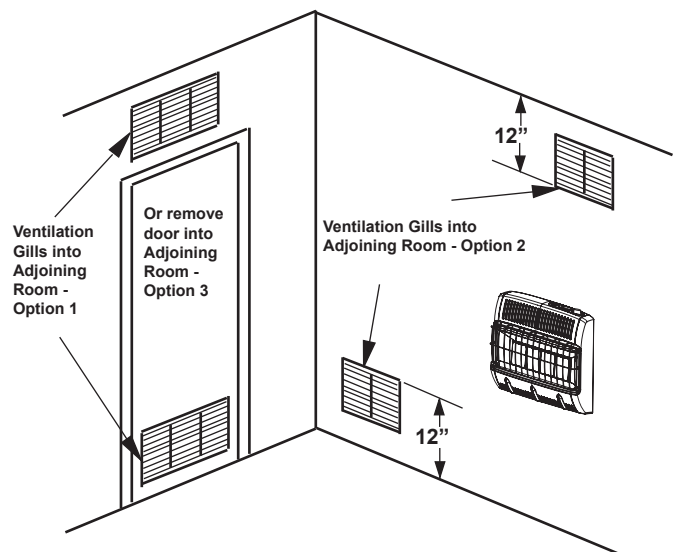

Figure 2.
- A. Rework worksheet, and the space of an adjoining room. If the extra space provides an unconfined space, remove door to adjoining room or add ventilation grills between the rooms. See Ventilation Air From Inside Building (Figure 2).
This fresh air would come from an adjoining unconfined space. When ventilation to an adjoining unconfined space, you must provide two permanent openings: one within 12" of the ceiling and one within 12" of the floor on the wall connecting the two spaces (see options 1 & 2 of fig. 2). You can also remove door into adjoining room (see option3, fig 2). Follow the National Fuel Gas Code NFPA 54/ ANSI Z223.1, Section 5.3, Air for Combustion and Ventilation for required size of ventilation grills or ducts.